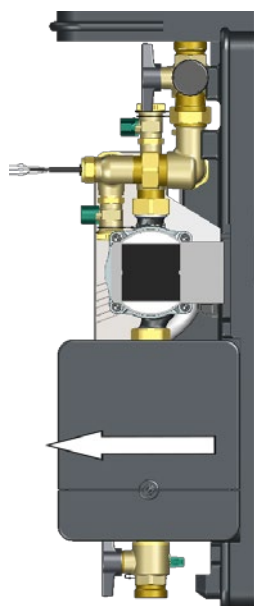

Fig. 6: Removal of the controller from the lower shell
- 1 Carefully remove the controller from the lower shell as shown in Fig. 6 on page 9.
- 11** Plug the controller back from the installation position to the operation position (see Fig. 6 on page 9).